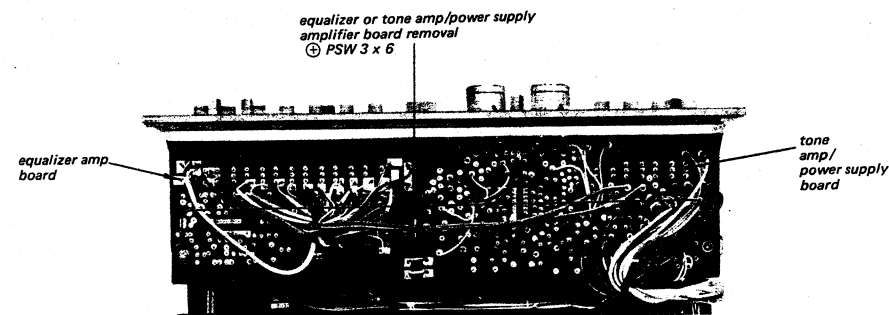

Fig. 2-6. Equalizer and tone amplifier/power supply board removal
2. Remove the three screws (⊕ B 2.6 x 4) securing the 4-key pushbutton switch to the front subchassis as shown in Fig. 2-6.
3. Remove the four screws (⊕ PSW 3 x 6) securing the tone amp/power supply board to the front subchassis as shown in Fig. 2-6. This frees tone amp/power supply board together with tone controls.
2. Remove the screws (⊕ PSW 3 x 6) securing the equalizer amp or the tone amp/power supply amplifier board to its mounting bracket as shown in Fig. 2-6.